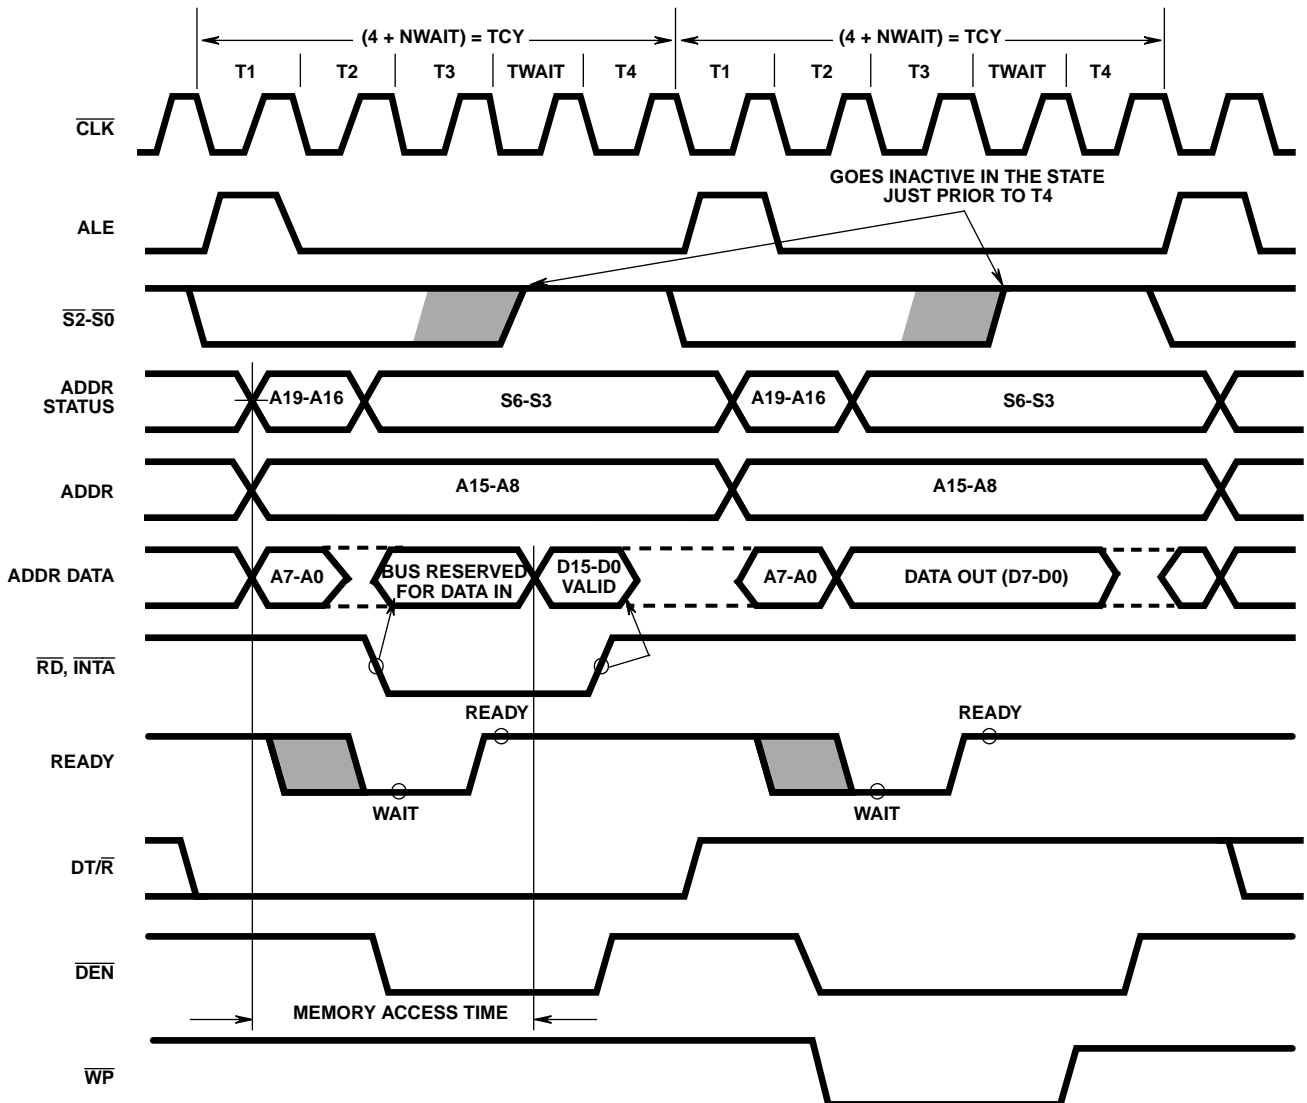

FIGURE 5. BASIC SYSTEM TIMING
Each processor bus cycle consists of at least four CLK cycles. These are referred to as T1, T2, T3 and T4. (See Figure 5). The address is emitted from the processor during T1 and data transfer occurs on the bus during T3 and T4. T2 is used primarily for changing the direction of the bus during read operations. In the event that a "Not Ready" indication is given by the addressed device, "wait" states (TW) are inserted between T3 and T4. Each inserted "wait" state is of
The read cycle begins in T1 with the assertion of the address latch enable (ALE) signal (see Figure 5). The trailing (low going) edge of this signal is used to latch the address information, which is valid on the address data bus (ADO-AD7) at this time, into the 82C82/82C83 latch. Address lines A8 through A15 do not need to be latched because they remain valid throughout the bus cycle. From T1 to T4 the IO/\overline{M} signal indicates a memory or I/O operation. At T2 the address is removed from the address data bus and the bus is held at the last valid logic state by internal bus-hold devices. The read control signal is also asserted at T2. The read (\overline{RD}) signal causes the addressed device to enable its data bus drivers to the local bus. Some time later, valid data will be available on the bus and the addressed device will drive the READY line HIGH. When the processor returns the read signal to a HIGH level, the addressed device will again three-state its bus drivers. If a transceiver (82C86/82C87) is required to buffer the local bus, signals DT/ \overline{R} and DEN are provided by the 80C88.